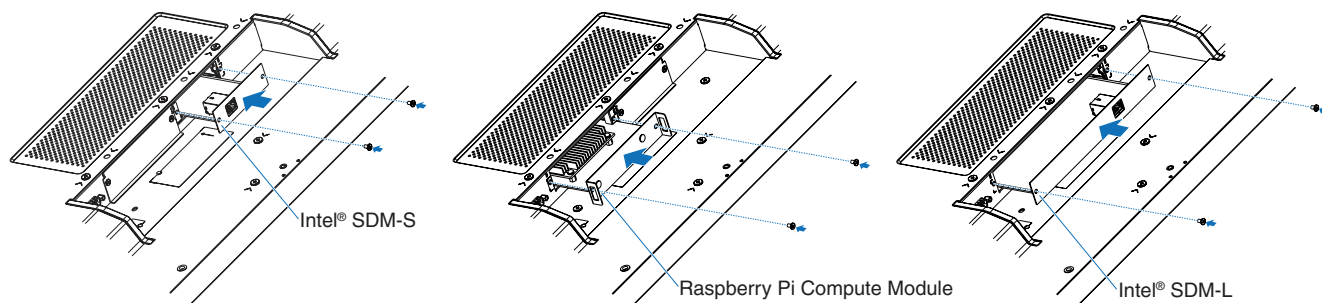

Figure 2
4. Insert the Option Board into the monitor and affix it in place with the removed screws (Figure 2).